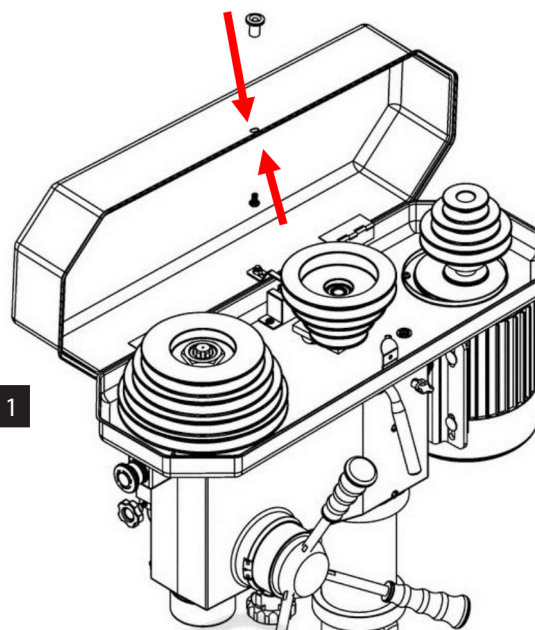

FIG. 4.11
- 12. Install the belt cover knob in its place (Fig. 4.11)